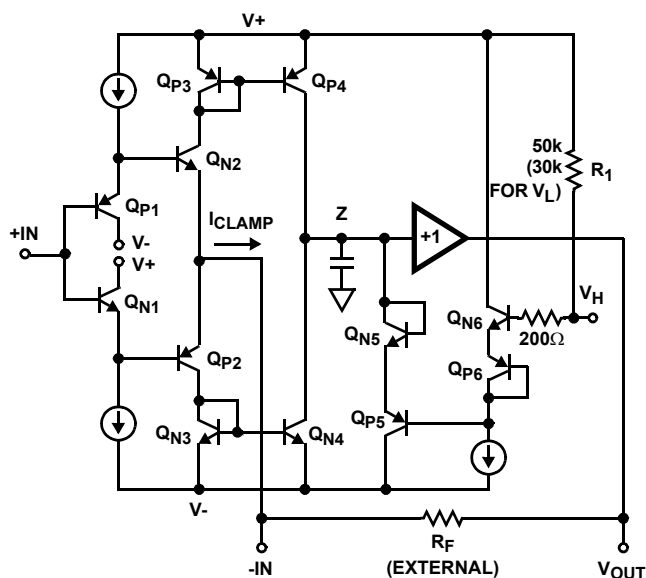

FIGURE 1. HS-1135RH SIMPLIFIED V_H CLAMP CIRCUITRY
Figure 1 shows a simplified schematic of the HS-1135RH input stage, and the high clamp (V_H) circuitry. As with all current feedback amplifiers, there is a unity gain buffer ($Q_{X1} - Q_{X2}$) between the positive and negative inputs. This buffer forces $-IN$ to track $+IN$, and sets up a slewing current of $(V_{-IN} - V_{OUT})/R_F$. This current is mirrored onto the high impedance node (Z) by $Q_{X3}-Q_{X4}$, where it is converted to a voltage and fed to the output via another unity gain buffer. If no clamping is utilized, the high impedance node may swing within the limits defined by Q_{P4} and Q_{N4} . Note that when the output reaches it's quiescent value, the current flowing through $-IN$ is reduced to only that small current ($-I_{BIAS}$) required to keep the output at the final voltage.
The clamped output voltage will not be exactly equal to the voltage applied to V_H or V_L . Offset errors, mostly due to V_{BE} mismatches, necessitate a clamp accuracy parameter which is found in the device specifications. Clamp accuracy is a function of the clamping conditions. Referring again to Figure 1, it can be seen that one component of clamp accuracy is the V_{BE} mismatch between the Q_{X6} transistors, and the Q_{X5} transistors. If the transistors always ran at the same current level, there would be no V_{BE} mismatch, and no contribution to the inaccuracy. The Q_{X6} transistors are biased at a constant current, but as described earlier, the current through Q_{X5} is equivalent to I_{CLAMP} . V_{BE} increases as I_{CLAMP} increases, causing the clamped output voltage to increase as well. I_{CLAMP} is a function of the overdrive level ($V_{IN} - V_{OUTCLAMPED}$) and R_F , so clamp accuracy degrades as the overdrive increases, or as R_F decreases. As an example, the specified accuracy of $\pm 60mV$ for a 2X overdrive with $R_F = 510\Omega$ degrades to $\pm 220mV$ for $R_F = 240\Omega$ at the same overdrive, or to $\pm 250mV$ for a 3X overdrive with $R_F = 510\Omega$.